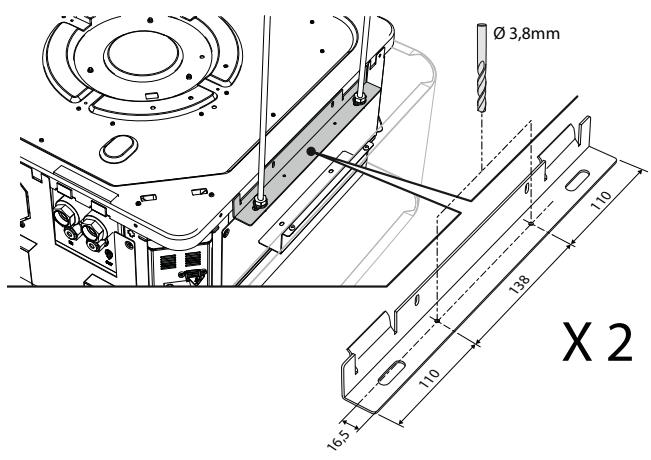

Fig. 2
- Join the two semi-cases using 6 self-threading screws (supplied), the brackets are already installed. (fig.2).